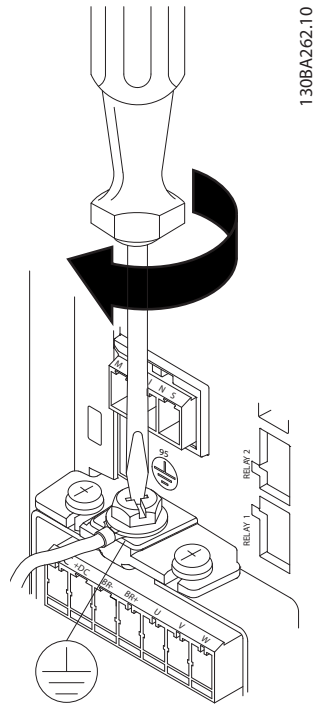

Figure 3.9 Mounting the Ground Cable
2. Mount the ground cable as shown in *Figure 3.9*.